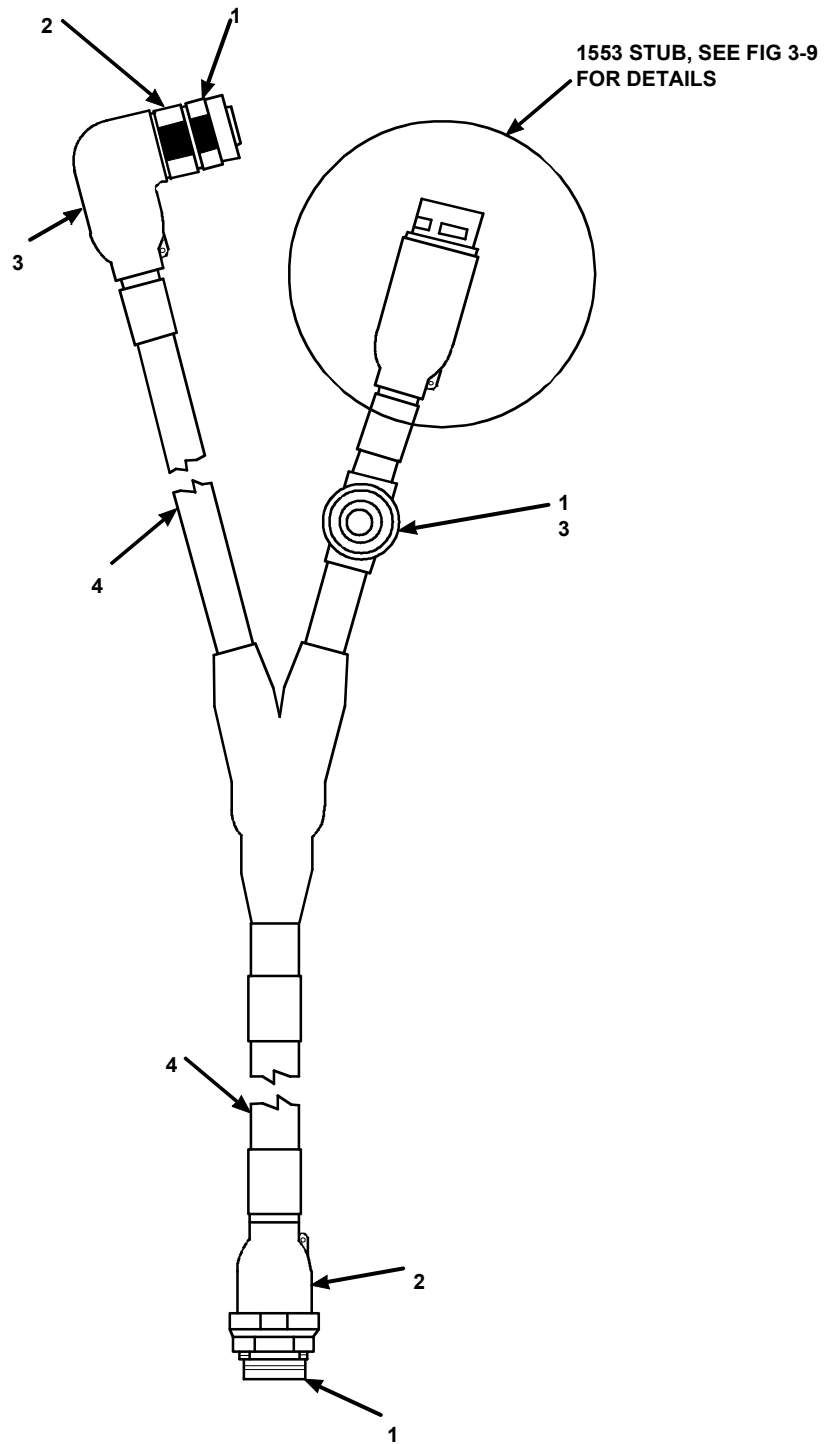

Figure 3-4. Power and Data Cable (5-Meter), P/N 12991852
**3.3.4 General Repair Requirements.** Refer to Figure 3-4. Repair or replace cable connectors as follows:
- n. Using small brush, clean sealing compound residue from threads of connector body (1 ) and backshell (2).
- o. Apply primer to threads of connector body (1 j and backshell (2).
- p. Apply sealing compound to threads of connector body (1 ) and backshell (2).
- q. Screw backshell (2) on connector body (1) and torque to 3.7 in. lb (5 N.m).
- r. Apply S1184 adhesive to inside of boot (3) to bond with cable shield and backshell (2).
- s. Apply S1125 adhesive inside of boot (3) for bonding to cable jacket (4) and backshell (2).
- t. Place boot (3) on backshell (2).
- u. Using heat gun, apply heat uniformly to boot (3) until boot shrinks to form secure seal around backshell (2) and cable (4).
**3.3.5 Inspection.** Refer to Figure 3-4. Inspect Power and Data Cable (5-Meter) as follows: